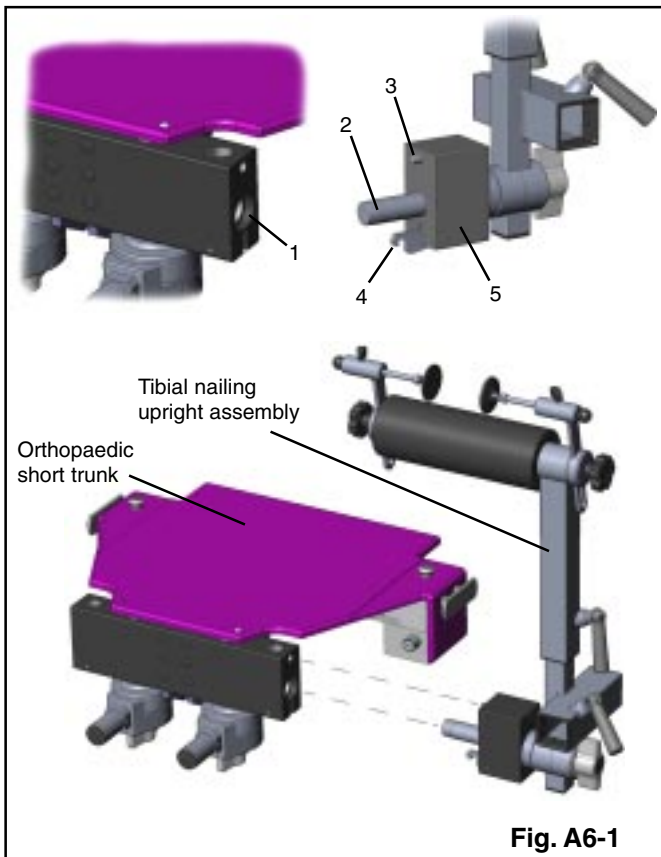

Fig. A6-1
Tibial nailing upright assembly. Attach as shown in Fig. A6-1 by aligning the guide pin (2) with the location hole (1). The attachment block (5) should be held vertical to enable the anti-rotation pin (3) and the catch (4) to engage correctly. Ensure the locking catch and the anti-rotation pin have engaged correctly by gently trying to twist and pull the assembly away from the table.
To release the tibial nailing upright assembly lift the release catch (4, Fig. A6-1) and slide the assembly out and away from the short trunk.